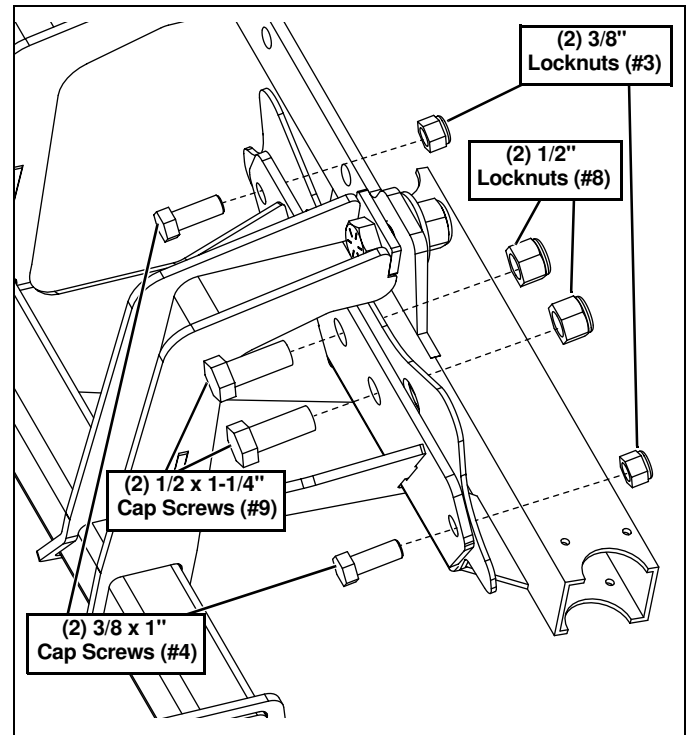

Figure 6
4. Insert (2) 1/2"-13 x 1-1/4" Caps Screws (#9) and (2) 3/8"-16 x 1" Cap Screws (#4) into the lower end of the Mounting Weldment (#2) and vehicle frame. Then, Secure with (2) 1/2"-13 Locknuts (#8) and (2) 3/8"- Locknuts (#3). (See Figure 6.)